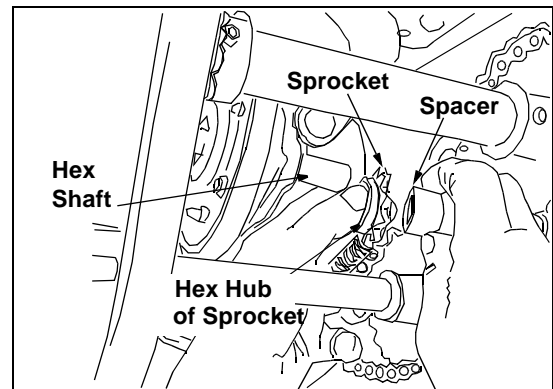

Figure 33
- Insert the hex shaft through the sprocket and the spacer. See Figure 33. Make certain that the chain engages both the large and the small sprocket.
toward the friction wheel when sliding the sprocket on to the hex shaft. See Figure 33.